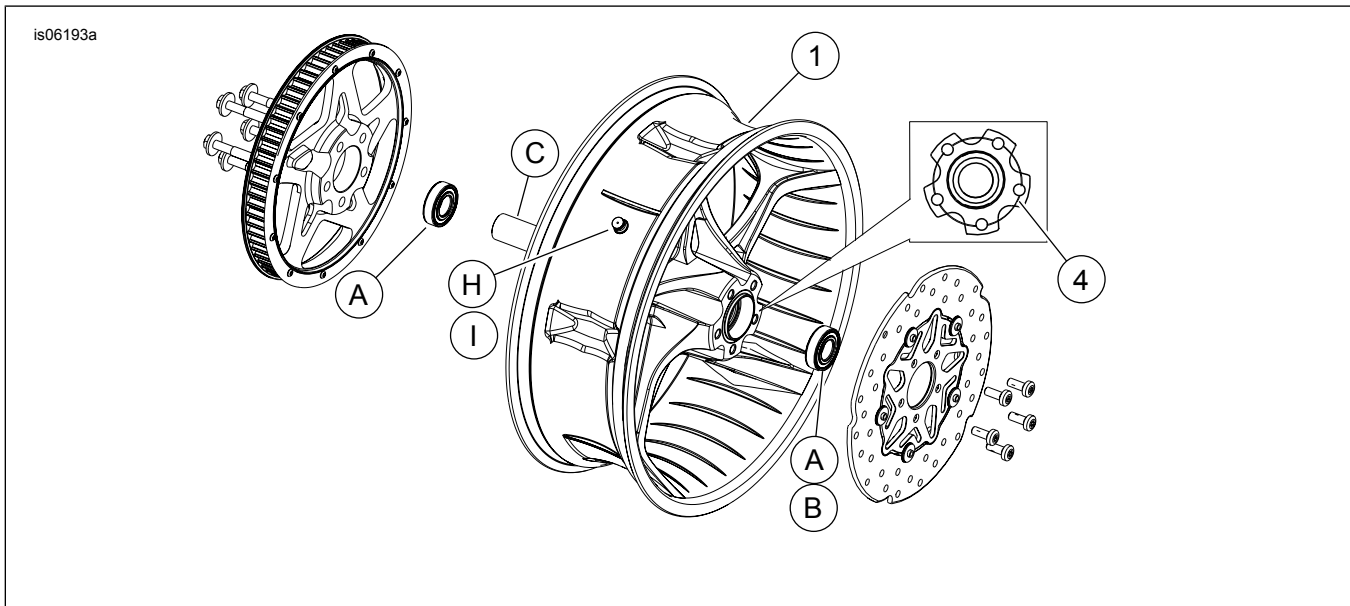

Figure 1. Service Parts: Rear Stinger Wheel
See Figure 1 and Table 2.
2. See Figure 1. Install valve stem assembly (H or I) on wheel. See the service manual.